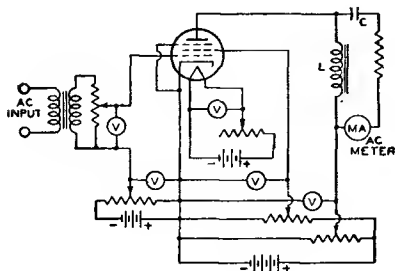

Fig. 78
Fig. 78 shows the fundamental circuit of a power-output test for class A operation of tubes. The diagram illustrates the method for a pentode. The ac output voltage developed across the plate-load impedance (L) is indicated by the current meter. The current meter is isolated as far as the dc plate current is concerned by the capacitor (C). The power output can be calculated from the current reading and known load resistance. In this way, it is possible to determine the operating condition of the tube quite accurately.